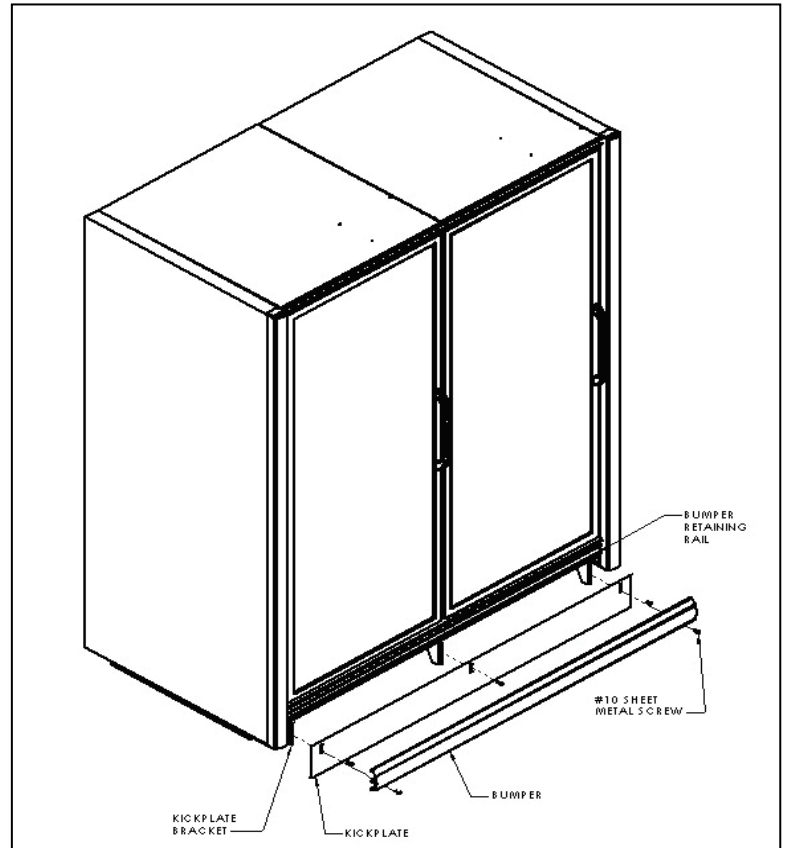
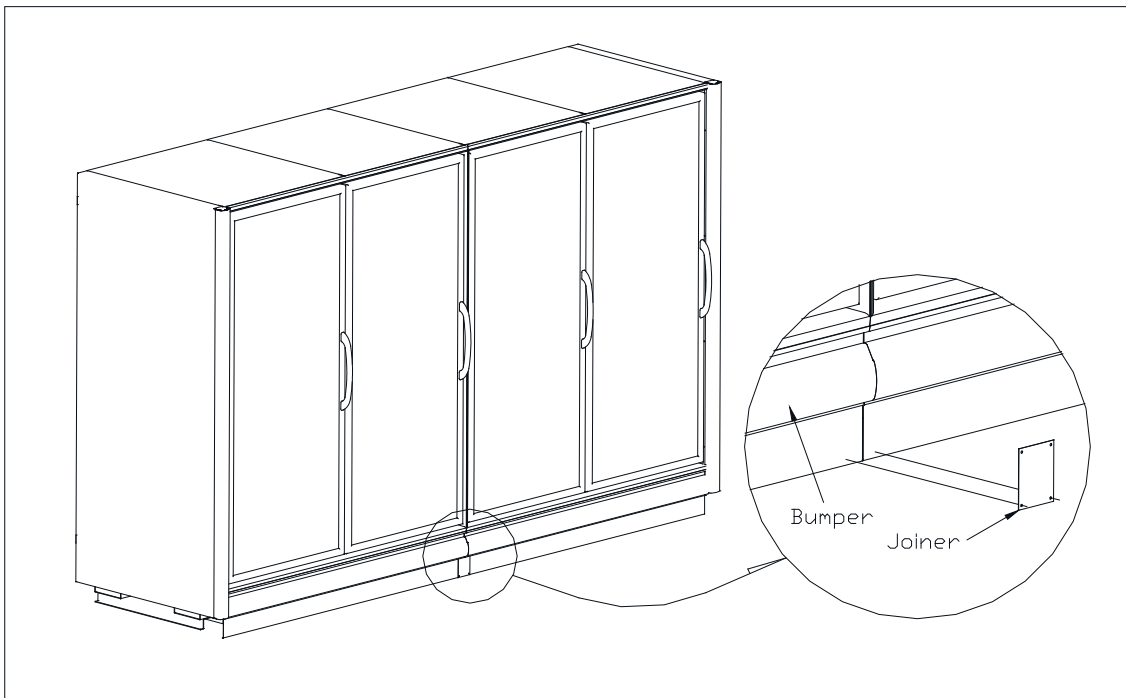

Figure 4 – Kickplate installation
Figure 5 – Kickplate joiner details
Install the kickplate behind the bumper and in front of the kickplate bracket. Secure the kickplate first by attaching it to the top pre-drilled holes of the kickplate brackets using the supplied #10x3/4" sheet metal screws. Then install the bumper by placing the top in the retaining rail and placing sheet metal screws through the bottom pre-drilled holes of the bracket. Refer to **Figure 4** for the placement of the kickplate.
To install the kickplate joiner, first make sure that the bumper is removed. Attach the kickplate retainer with the (2) #10x3/4" self-drilling sheet metal screws provided with the kit as shown in **Figure 5**. Rettach the bumper onto the bumper retaining rail and attach with screws as shown in Figure 4.